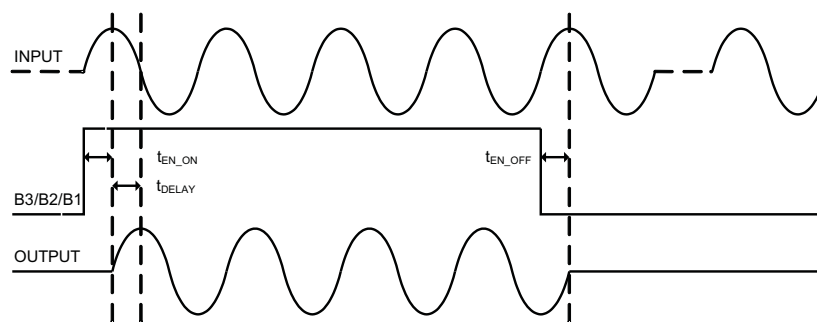

Figure 2. Timing Diagram
(1) 5MHz  $1V_{\text{PP}}$ , and 5.01MHz  $0.5V_{\text{PP}}$  input.
(2) PSMR is defined as the ratio between carrier 5MHz and side band signals with 1KHz and 1MHz  $50mV_{\text{PP}}$  Noise applied on supply pins.
(3) See the timing diagram show in Figure 2.